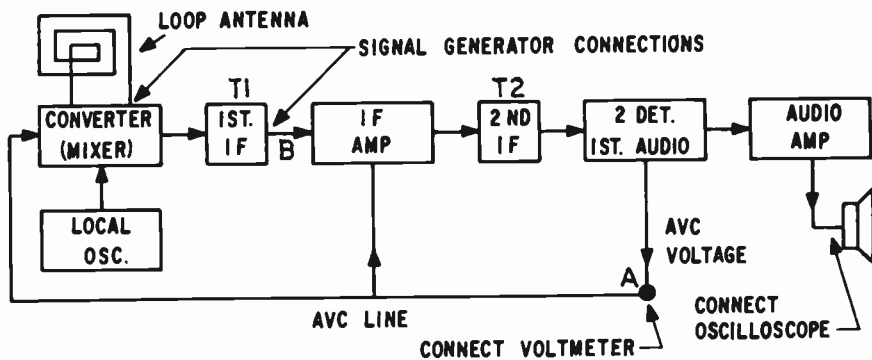

FIG. 15-20. ALIGNING AN AM SUPERHETERODYNE RECEIVER.
With the aid of the block diagram of Fig. 15-20, we will see exactly how a superheterodyne receiver is aligned. In order to align a receiver, a calibrated oscillator or signal generator and some form of output indicator are required. The output indicator can be a V.T.V.M., an oscilloscope or the speaker of the receiver.
(1) Allow signal generator and receiver to warm up for at least fifteen minutes.
(2) Connect a VTVM set at - DC volts to AVC point A in Fig. 15-20.
(3) Set signal generator to receiver's IF frequency with modulation on.
(4) Temporarily short out oscillator variable capacitor.
(5) Connect signal generator through a small capacitor to the grid of the IF stage (point B).